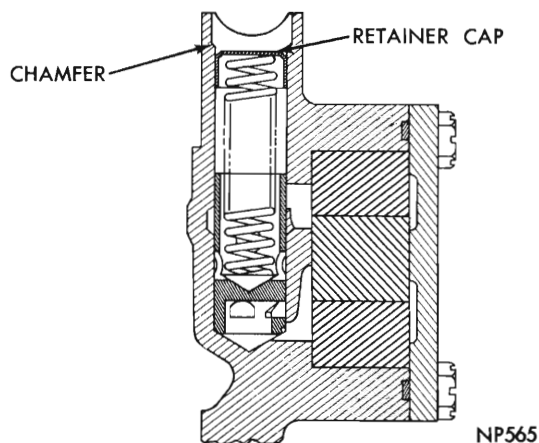

Fig. 8 – Proper retainer cap installation
(b) Clamp screw into a vice and while supporting oil pump, remove cap by tapping pump body using a soft hammer. Discard cap and remove spring and relief valve (Fig. 8).
(10) The relief valve spring has a free length of 2-1/32 to 2-3/64 inch and should test 16.2 to 17.2 lbs. when compressed to 1-11/32 inch. Discard springs that fails to meet specifications.
(11) Install the relief valve, spring, and a new retainer cap. (Spring seats inside retainer cap). Press retainer in housing so that top of retainer cap is within the relief valve bore diameter as shown in *Fig. 8*. Install cotter pin.
(12) If oil pressure is low, inspect for worn bearings, or look for other causes of possible loss of oil pressure.
(1) Remove cotter pin, drill a 1/8 inch hole in the relief valve cap and insert a self-threading sheet metal screw into cap.
(2) Clamp screw into a vice and while supporting oil pump, remove cap by tapping pump body using a soft hammer. Discard cap.
(3) Remove spring and plunger.
(4) Clean parts thoroughly. Inspect oil pump relief valve for scoring and free operation in its bore. Small scores may be removed with 400 grit wet or dry paper providing extreme care is used not to round off the sharp edge portion of the valve.
(5) The relief valve spring has a free length of 2-1/32 to 2-3/64 inch and should test 16.2 to 17.2 lbs. when compressed to 1-11/32 inch. Discard spring that fails to meet specifications.
(6) Install the relief valve, spring, and a new retainer cap. (Spring seats inside retainer cap). Press retainer in housing so that top of retainer cap is within the relief valve bore diameter as shown in *Figure 8*. Install cotter pin.